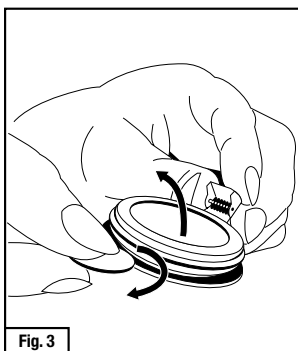

Fig. 3
5. After sampling period is ended, remove plastic ring and white film from the monitor (Fig. 3).